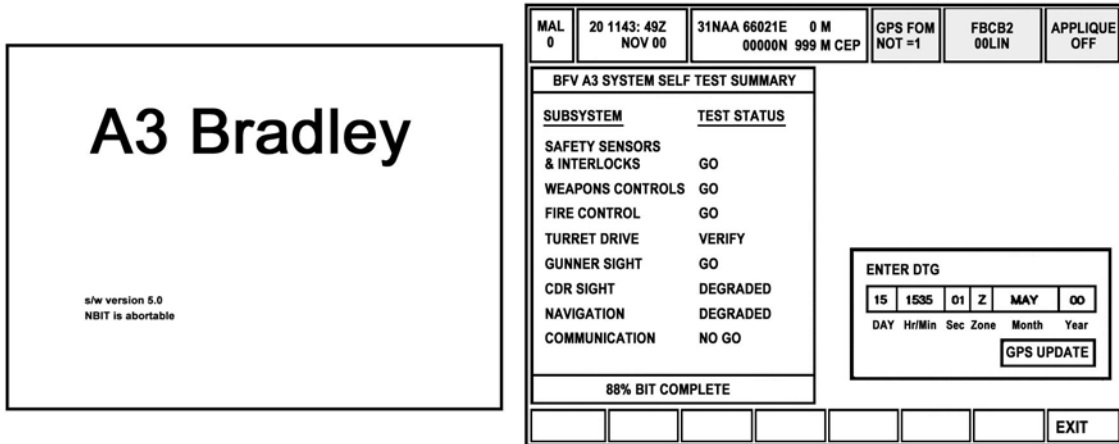

Figure 2. System START UP Screen.
- b. Enter the appropriate vehicle password by using the commander's data entry tool (CDET) and the cursor control function on the commander's hand station (CHS) (Figure 2).